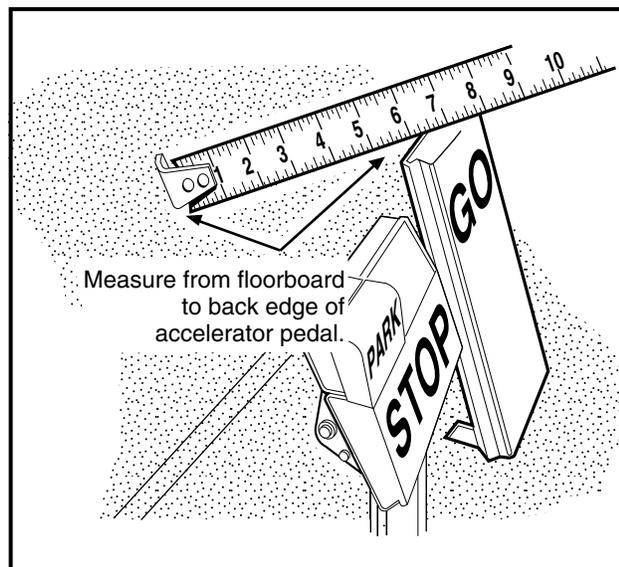

Figure 5-17 Accelerator Pedal Height Measurement
- 4.3. With the park brake unlocked, measure and note the distance from the top of the accelerator pedal to the floorboard, and then lock the park brake (**Figure 5-17, Page 5-14**).